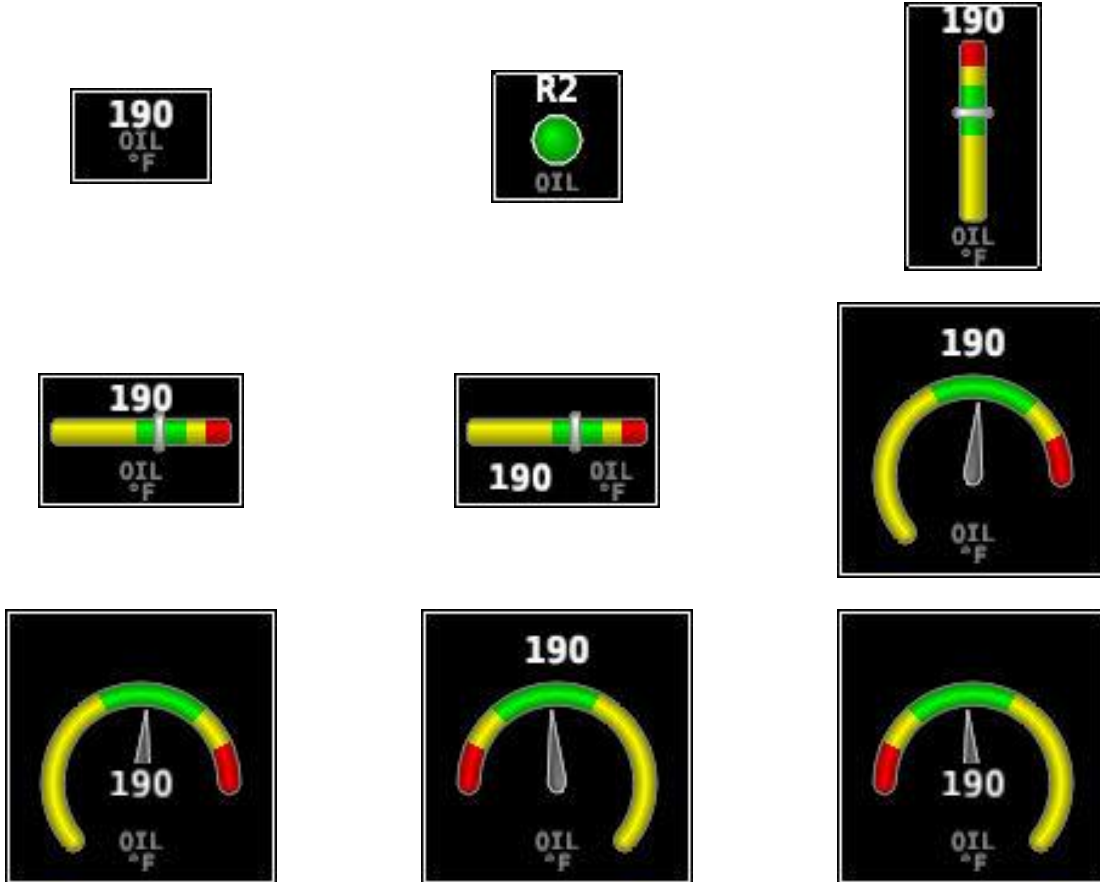
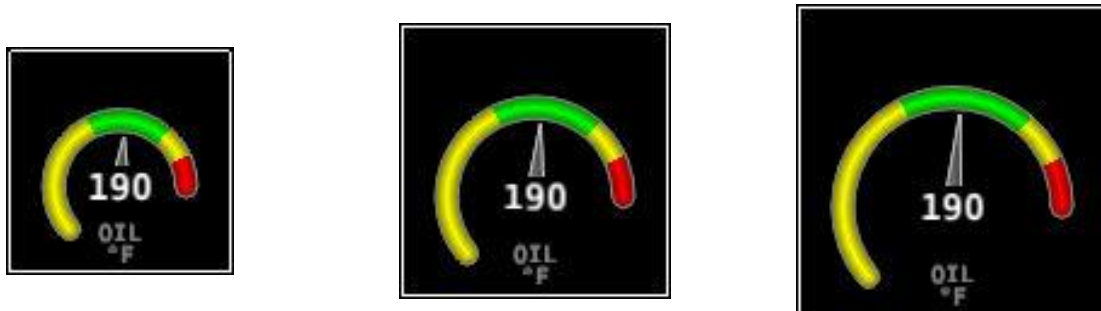

Figure 102 – Example of Oil Temperature Widget Styles
Figure 103 – Example of Oil Temperature Widget Sizes
If one SkyView display is being used as a dedicated Engine page with a 100% page layout, installer may consider using individual widgets to display the functions listed above. Individual widgets are selected from the SCREEN LAYOUT EDITOR's SENSOR list and are labeled Function (1) and Function (2). The Function (1) widget is linked to the EMS module installed for the left engine, which is configured as ENGINE #1 EMS in SETUP MENU > EMS SETUP > DUAL EMS SETUP. The Function (2) widget is linked to the right engine EMS module (ENGINE #2 EMS). These widgets come in the same style and size variations as shown in Figure 102 and Figure 103.